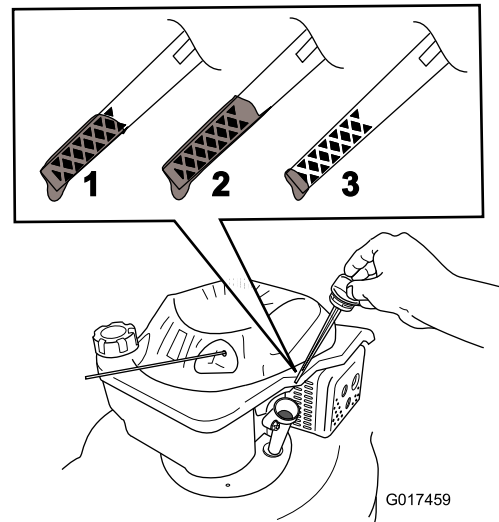

**Figure 34**
5. Tip the mower onto its side, with the dipstick down, to drain the used oil out through the oil fill tube (Figure 34).